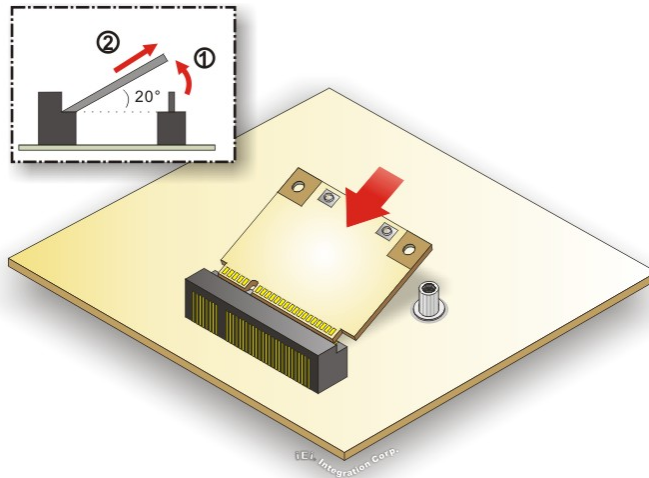

Figure 3-10: Inserting the WLAN Module
Step 4: Line up the notch on the WLAN module with the notch on the slot. Slide the WLAN module into the slot at an angle of about 20° (**Figure 3-10**).